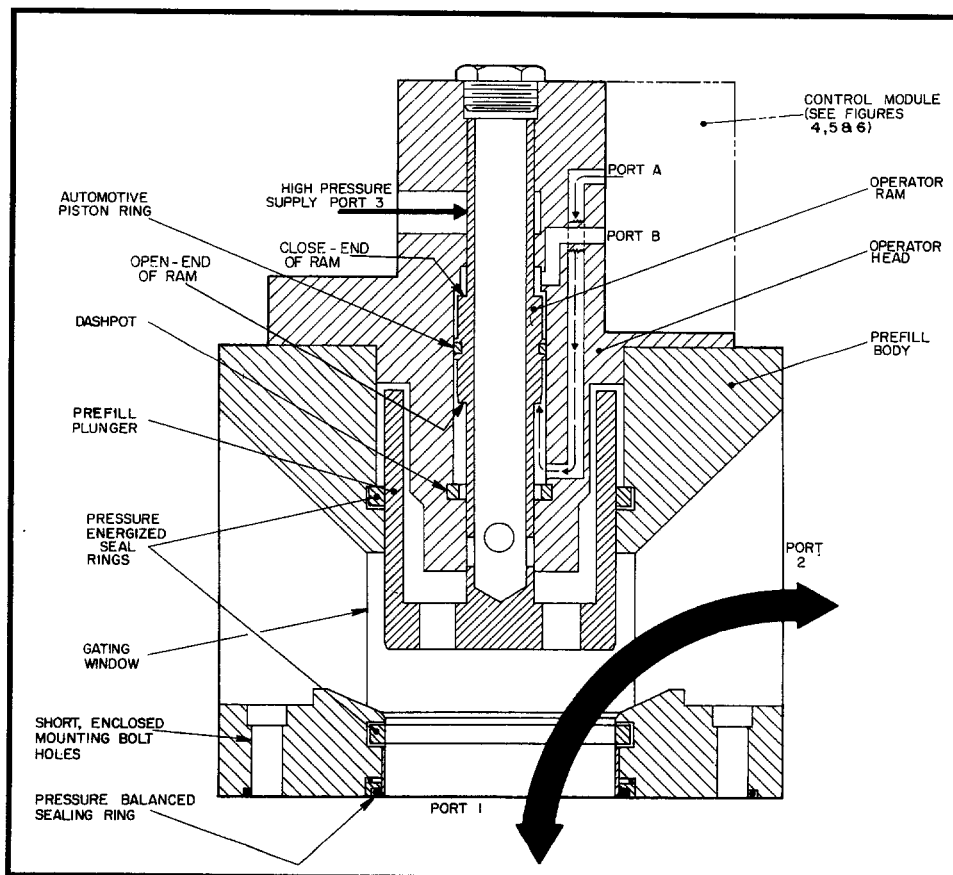

Figure 2. Diagram of Oilgear "VSA" Cylinder Prefill Unit in OPEN position (508737D).
**1. Cylinder Traverse Advance.** See Figure 2. Pressure at control Port "A" retracts the operator ram with the prefill plunger. Port 3 is blocked by the hollow operator ram. Tank Port 2 is connected (without restriction) to cylinder Port 1 allowing gravity prefilling to the connected cylinder.
**3. Cylinder Traverse Return.** See Figure 2. Following decompression to 250 psi (17,2 bar) or less [Port 3 can be used], pressure at Control Port "A" will retract the operator ram, block High Pressure Port 3 and allow unrestricted exhaust from Cylinder Port 1 to Tank Port 2.